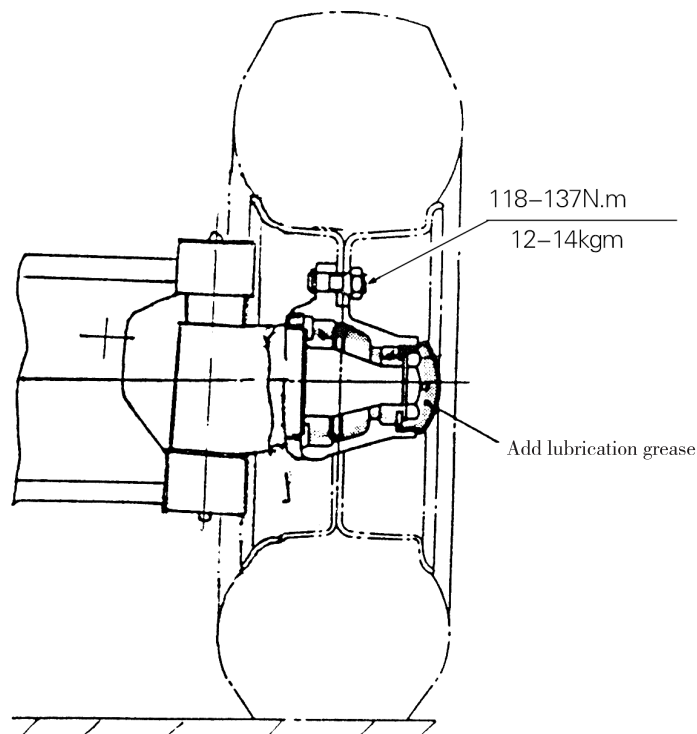

Fig.7-2 Pre-load adjustment
(1) As shown in Fig.7-2, with lubricating grease, fill up the chamber formed by wheel hubs, wheel hub bearings and wheel hub covers and coat the lips of the oil seals.
(2) Press the hub bearings into the hub and fit the hub on the knuckle shaft.
(3) Fit a flat washer and tighten a castle nut to a torque of 206-235N.m (21-24kgm) and loosen it and then tighten it again to a torque of 9.8N.m (1kgm).
(4) To ensure firm installation of the hub, slightly knock at it with a wooden hammer and in the meantime, rotate the hub for 3-4 turns.
(5) Tighten the castle nut and align one of its notches with a cotter pin hole drilled in the steering knuckle.
(6) Again slightly knock at the hub with a wooden hammer and in this time, rotate manually the hub for 3-4 turns to ensure its smooth rotation with a specified torque of 2.94-7.8N.m (0.3-0.8kgm).
(7) If the torque value necessary to rotate the hub is more than the specified one above-mentioned, screw out the castle nut for 1/6 turn and measure the torque value then.